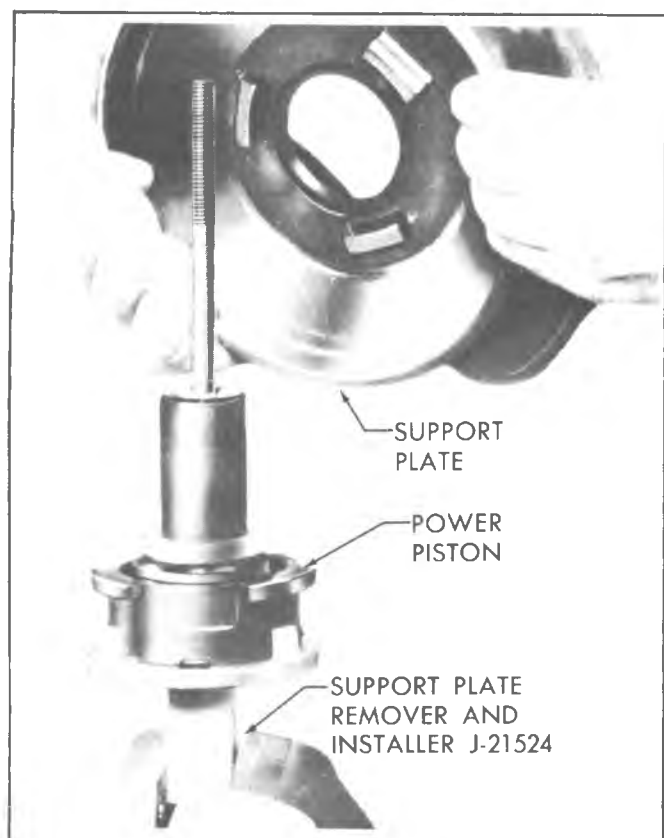

Fig. 5-8C--Removing Support Plate
7. Press down on support plate and rotate counter-clockwise until support plate separates from power piston (fig. 5-8C).